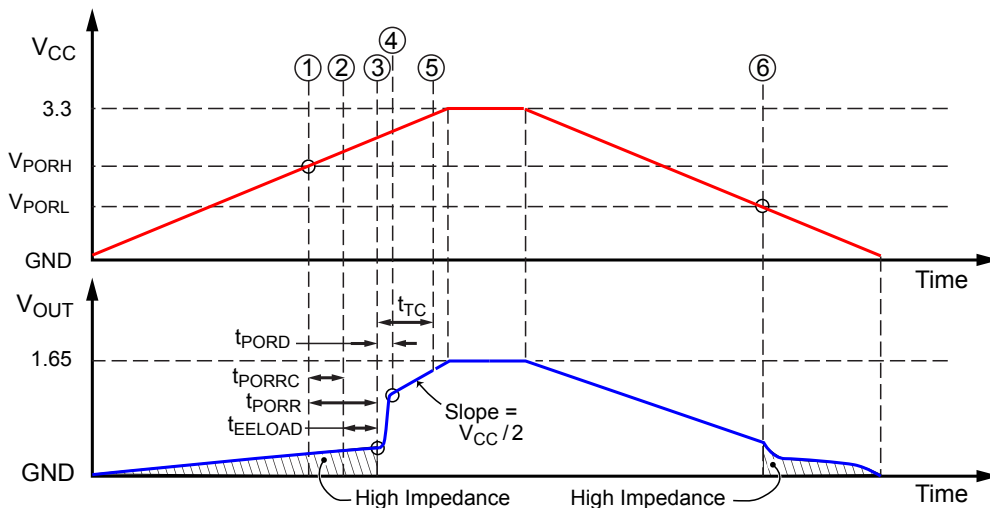
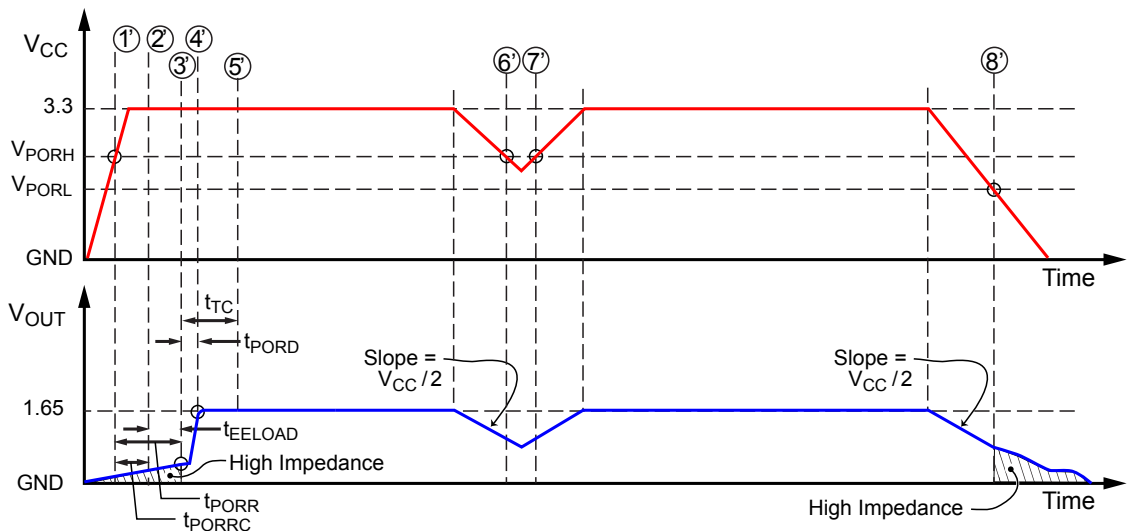

Figure 1: POR Operation: Slow Rise Time Case
Figure 2: POR Operation: Fast Rise Time Case
- **Power-Up.** At power-up, as V_{CC} ramps up, the output is in a high-impedance state. When V_{CC} crosses V_{PORH} (location [1] in Figure 1 and [1'] in Figure 2), the POR Release counter starts counting for t_{PORRC} [2], [2']. At this point, the EEPROM content will be loaded in volatile memory after t_{EELoad} [3],[3'] and the output will go to $V_{CC}/2$ after t_{PORL} [4], [4']. The temperature compensation engine will then adjust the